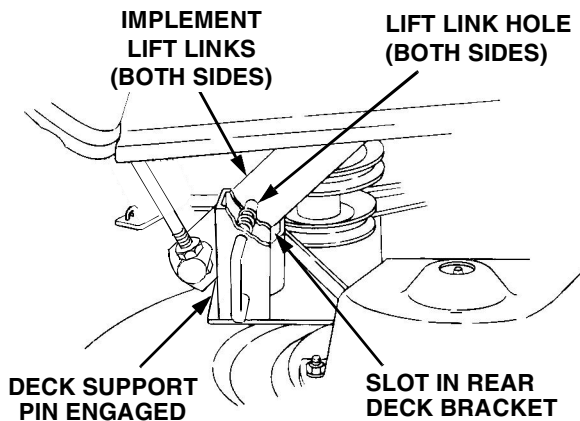

Figure 6-24
- Carefully guide the tractor implement lift links (left and right) into the rear deck bracket slots (left and right) as the tractor implement lift handle is lowered to its lowest setting (Refer to Figure 6-24).
- Pull both deck support pins outward and rotate rearward to disengage the outer surface to the rear deck brackets. Release the pins, making certain each deck support pin passes through the inner hole of the rear deck bracket. The spring tension will push the pins inward and, if aligned, through the hole in each implement lift link (See Figure 6-24).